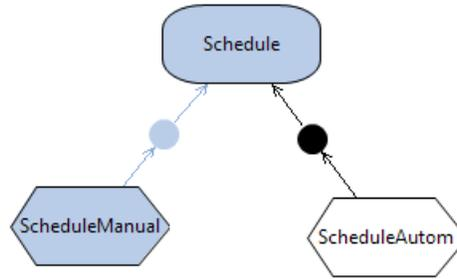

Figure 39: Highlighted Satisfied Nodes
- Highlight parts of the model (in blue) which are realizable/satisfied (Figure 39).